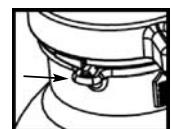

Figure 2
3. Remove cap assembly by pressing down on locking tab (Figure 2) and rotating cap counterclockwise 1/4 turn. Pull cap off.